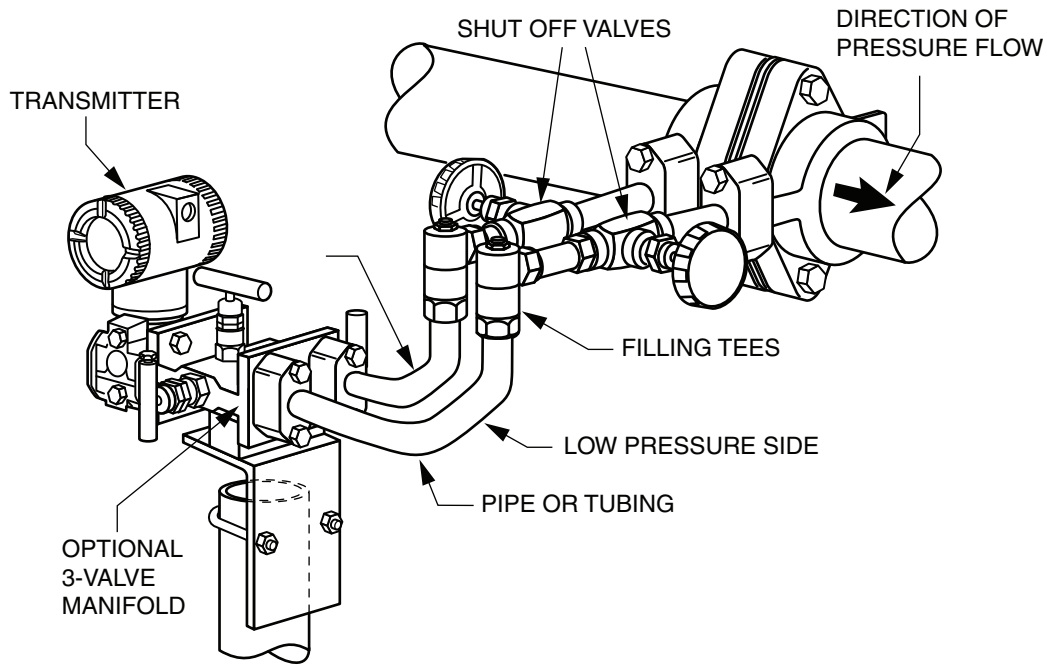

Figure 2. Typical Piping for Horizontal Process Line When Seal Liquid is Required
5. If the process fluid must not come in contact with the transmitter, transmitter lines can be filled with a suitable seal liquid. With steam flow, a water seal must be used. However, when a seal liquid is used, pressure lines are required (the transmitter cannot be mounted directly to the orifice assembly body). Instead, optional pressure connectors must be used (see typical installations in Figures 2 and 3).
1. Two pairs of pressure connectors and bolts are required; one pair is supplied with the orifice assembly, and the other pair is supplied with the transmitter (see Figures 2 and 3). Connections for pressure piping are tapped for either 1/2 NPT or R 1/2, as specified.